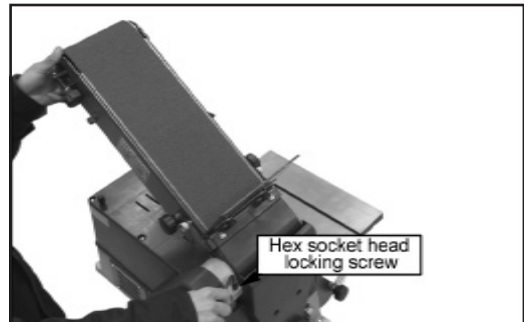

Fig. 13
2. Loosen the hex socket head locking screw (59) using a 1/4 inch hex wrench. (See Fig. 13)